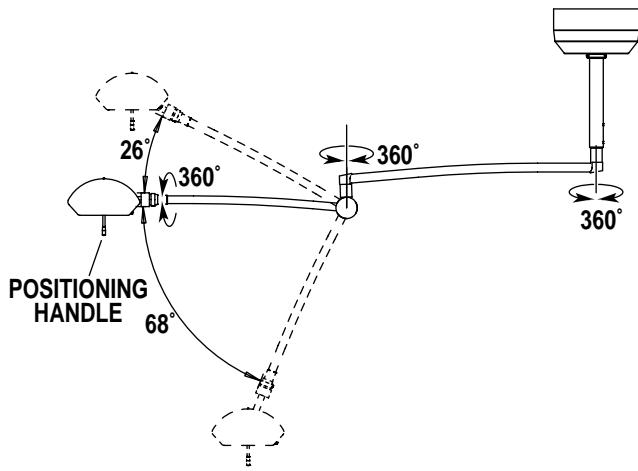

Figure 2. Model STX1 Positioning
- Using the positioning handle, place the lighthead in the desired position. Refer to figure 2 for full positioning capabilities.